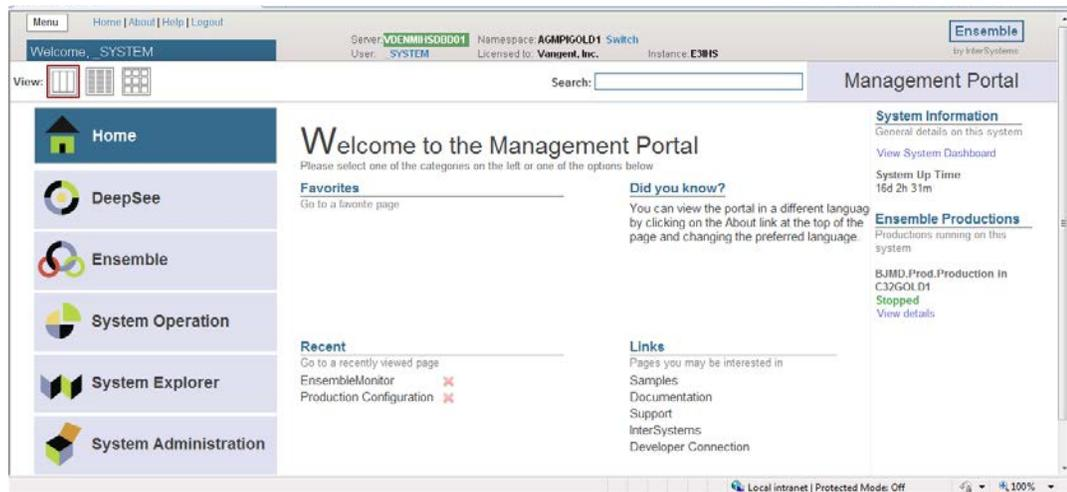

Figure 4-2: Management Portal page
2. Click the Ensemble cube icon in the system tray, and then click **Management Portal** to open a browser window, as shown in Figure 4-2.